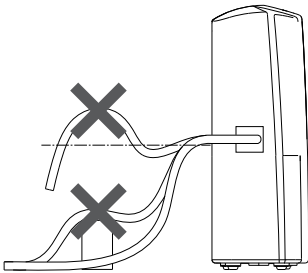

fig. 3
- 5) Replace the tank in the unit (fig. 3).